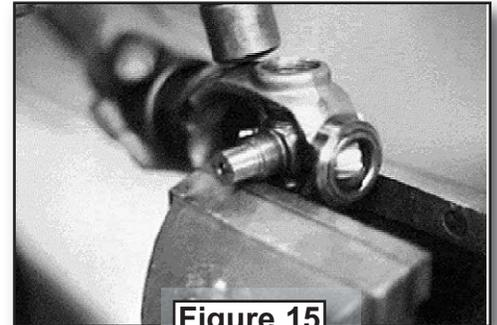

Figure 15
11. Set the shaft yoke on the vise so the shoulders of the cross are supported by the jaws of the vise. **DO NOT** allow the machined surfaces to contact the vise. Hit the yoke with the hammer to seat the bearing cup against the snap ring. **DO NOT** hit the yoke near the opening for the bearing cups (see Figure 15).